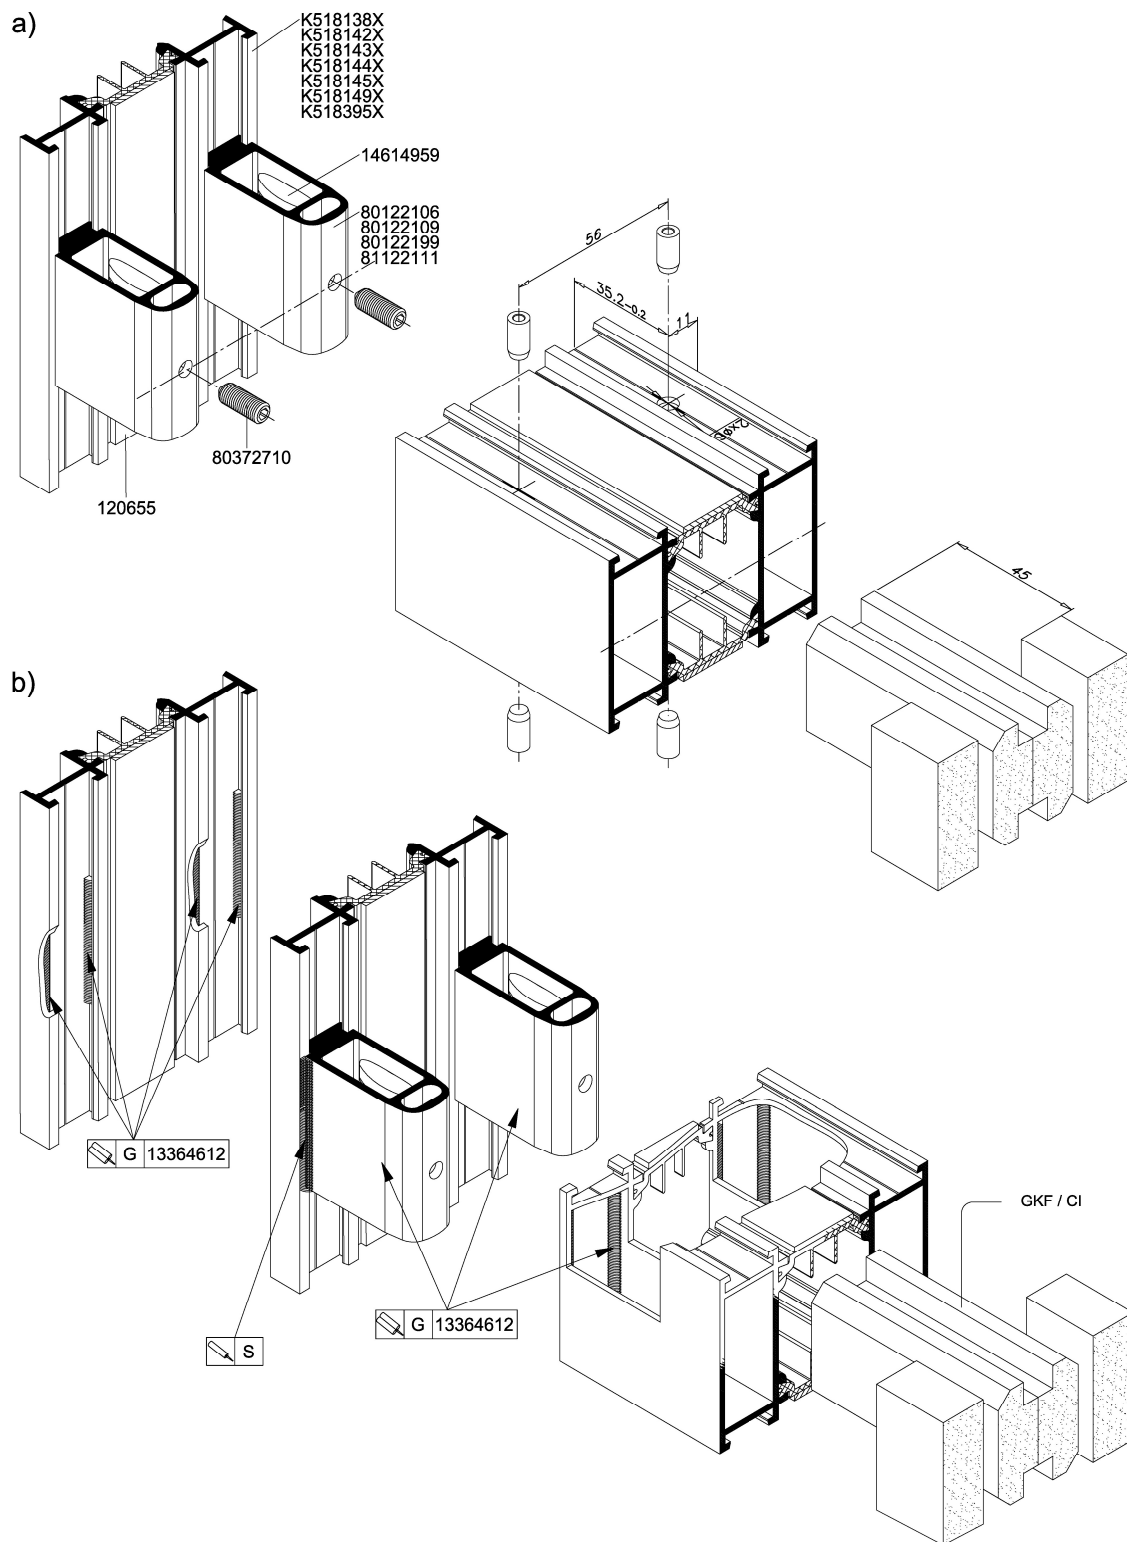

Fig. 23 'T' connections of transoms, crosspieces and mullions
- making 'T' connections of door system mullions with door system frames and top/side light frames, using system-specific connectors, catalogue no. 8012211 ÷ or 8012215, as shown in Fig. 23,
Connections are to be made in accordance with Fig. 23.